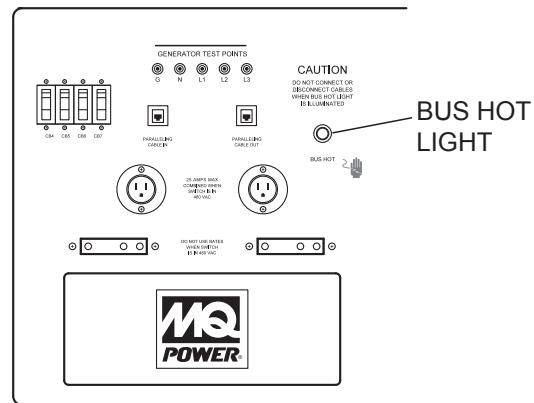

Figure 28. BUS HOT Light
8. Verify that the **BUS HOT** light (Figure 28) on the Camlok/Voltage Output Panel is **ON**. Voltage is now available at the receptacles.